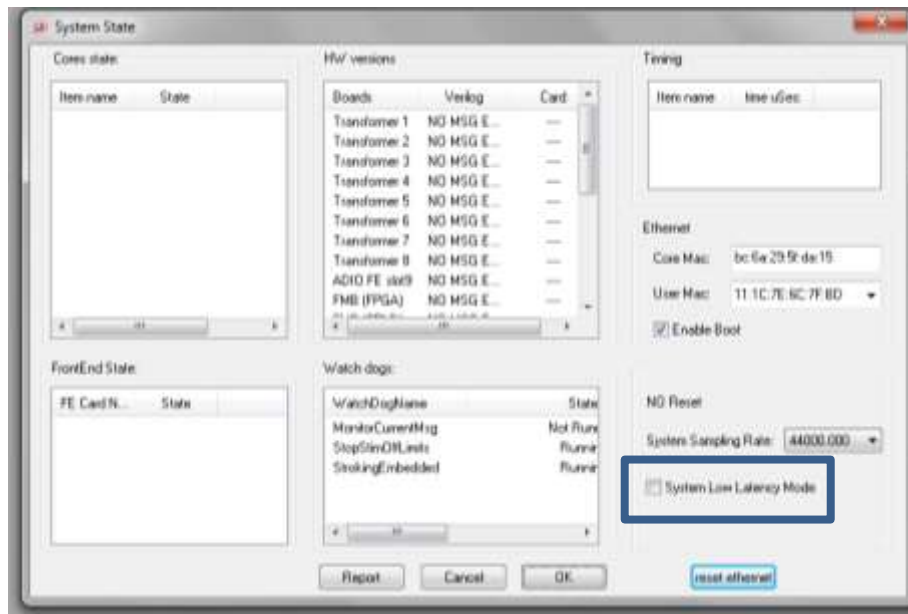

Figure 69: Low latency mode in system state window
- b. Check the system low latency mode box (see Figure 69**Error! Reference source not found.**)